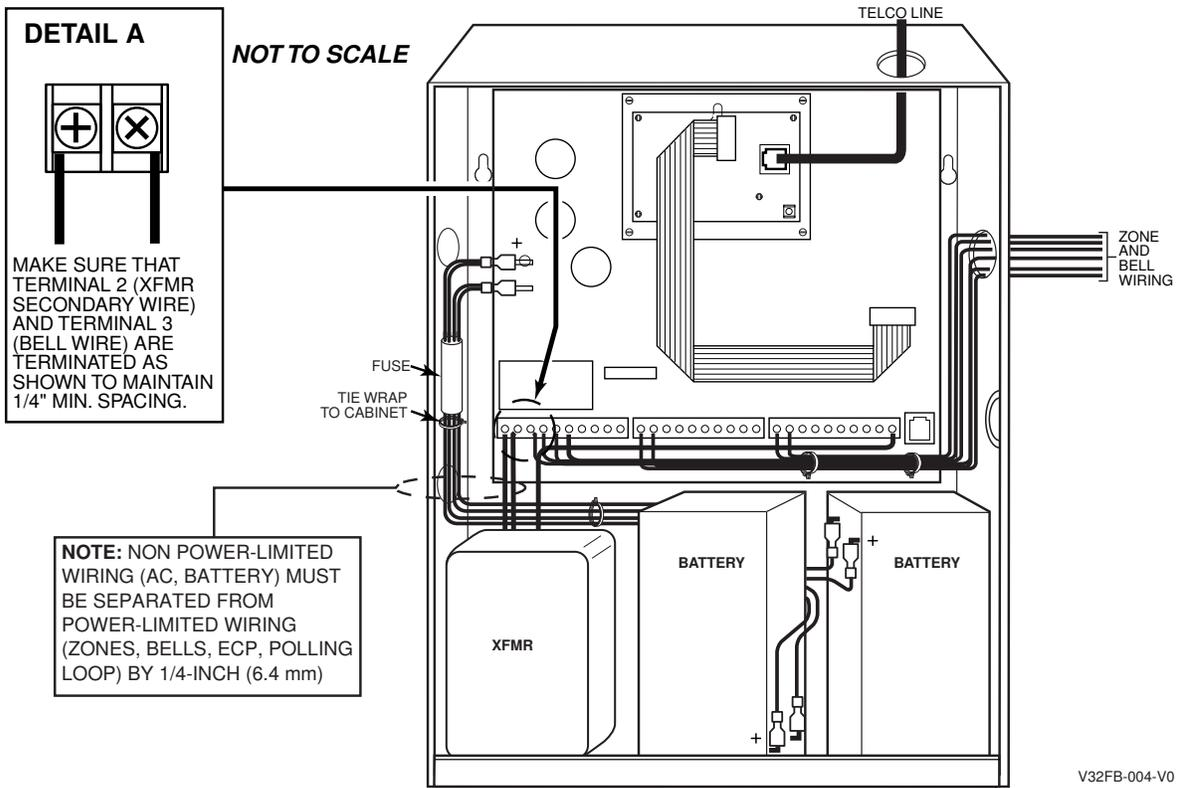

Figure 3-2: Separation of Circuits
For Commercial Fire installations, the following requirements apply (See Figure 3-2).
- All unused knockouts must be plugged using the disc plugs and carriage bolts (supplied), as indicated in Figure 3-2.